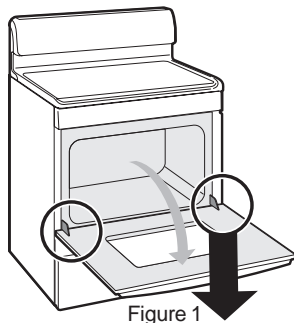

Figure 1
1. Open oven door completely (horizontal with floor - See Fig. 1).